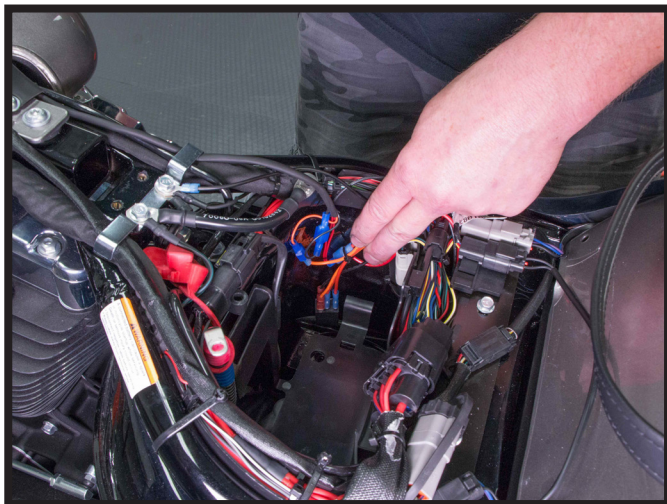

FIGURE 48
25. TRIM THE WIRES TO THE DESIRED LENGTHS AND FINISH ALL CONNECTIONS FOLLOWING THE WIRING DIAGRAMS IN THE BACK OF THIS MANUAL. BUNDLE THE WIRES WITH THE SUPPLIED ZIP TIES AND TUCK THEM INTO THE POCKET NEXT TO THE BATTERY. INSTALL THE BATTERY. (FIGURES 48, 49)